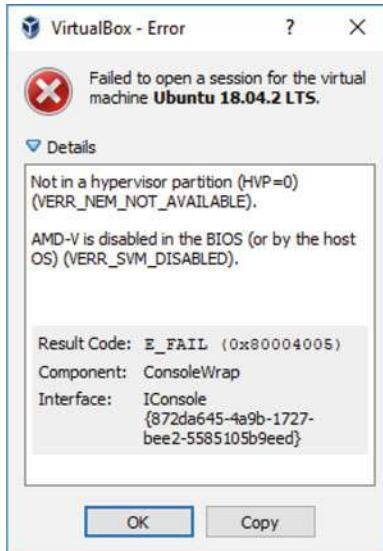

Fig. 11.8: Bad Bios setting for virtualization
VirtualBox's 64-bit Virtual Machine (VM) guests will not install unless hardware virtualization has been enabled in your PC's BIOS, so check and make sure your PC/Laptop's BIOS has virtualization enabled before you proceed with the VirtualBox installation. If you do not, and virtualization has not been enabled, you will probably get the error shown in Fig. 11.8.